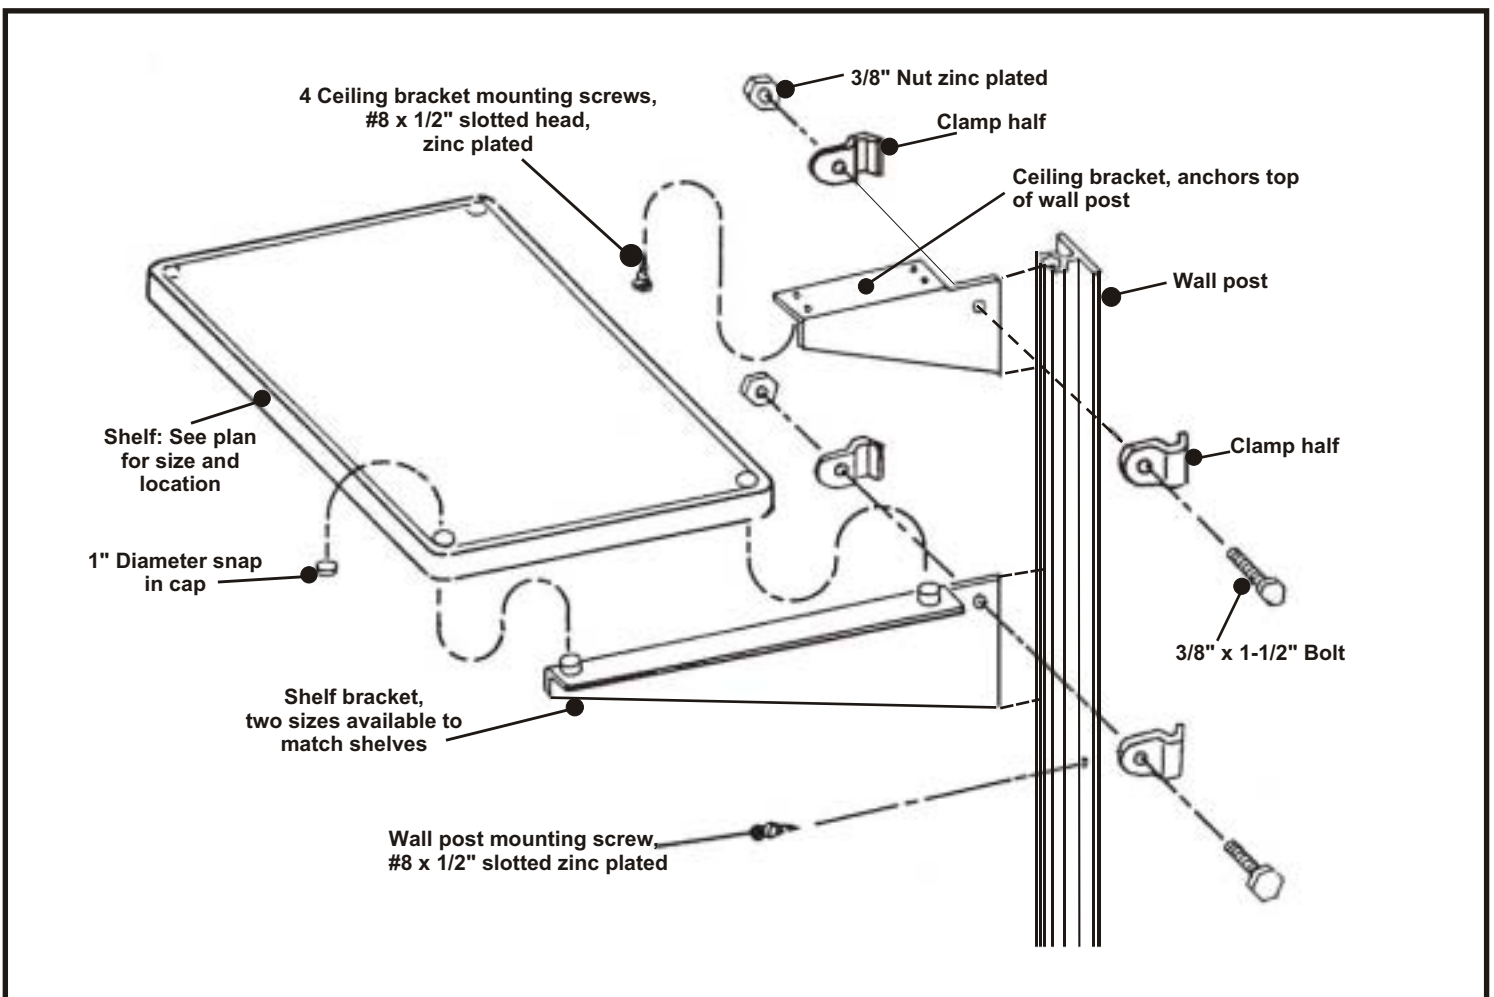
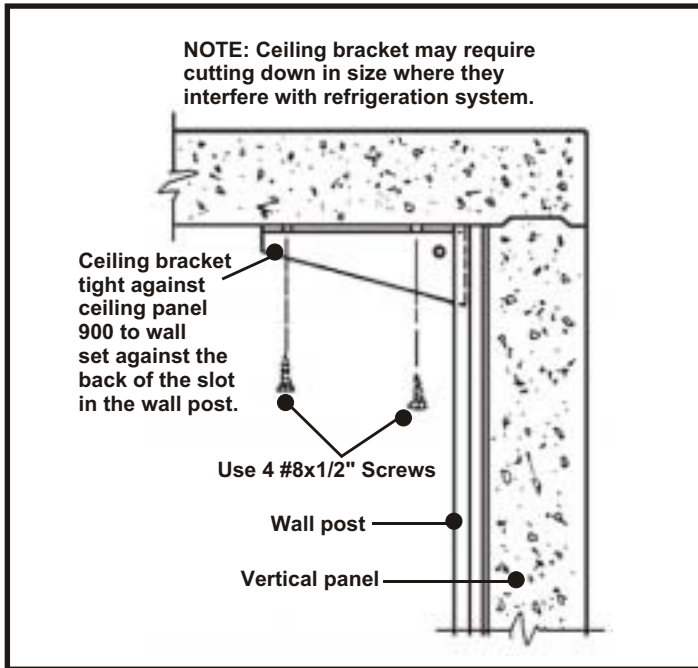
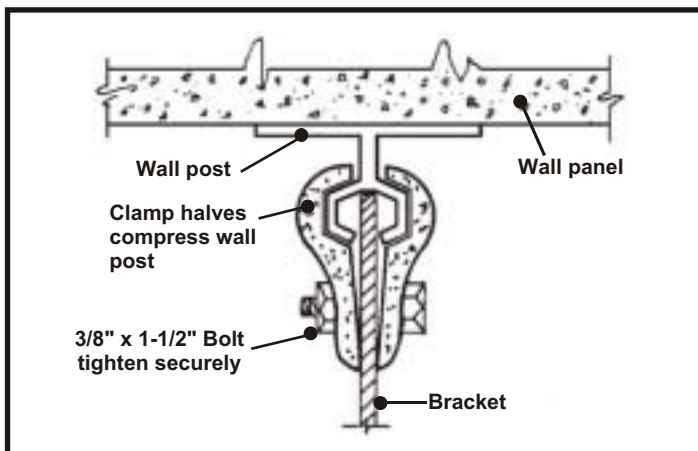

Fig. 41
Fig. 42
Fig. 44
2. Place the ceiling bracket into the slot in the wall post and push the bracket up against the ceiling panel. Note that the flange of the bracket is positioned toward the shelf. The bracket must be perpendicular to the wall. Mark all holes and drill holes the same size as the holes for the posts. Attach bracket using four #8 x 1/2" long sheet metal screws. See Fig. 41 for parts identification and Fig. 42 for mounting position.
The same clamps are used on the ceiling bracket and the shelving bracket. See Fig. 41. The clamp has two identical halves which sandwich brackets and wall posts. See Fig. 44. Clamp the ceiling bracket at each wall post using 3/8" d. X 1-1/2" long body bolts.